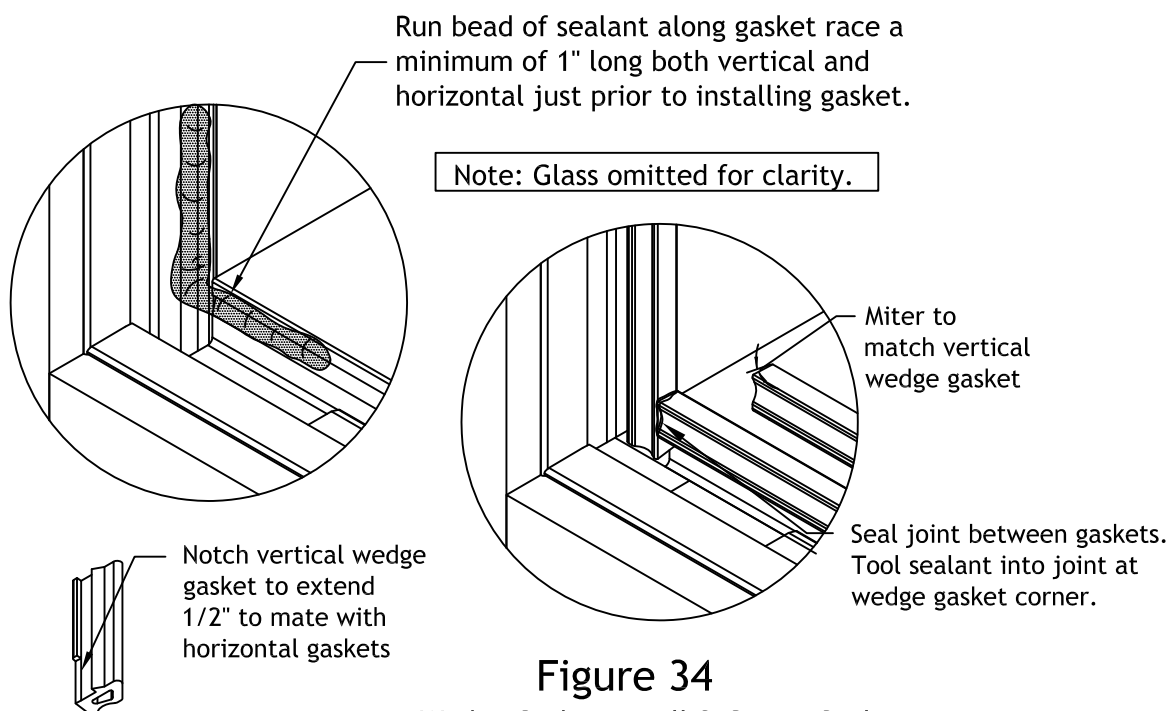

Figure 34
- 8.5 Install glass stops and run interior wedge, crowding into corners. Vertical wedge should be cut DLO plus 1", notch ear and push into glazing pocket by 1/2 at top and bottom of lite. Horizontal wedge to run DLO and mitered to fit tight against vertical wedge. Seal corners of wedge gaskets per **FIGURE 34, page 25.** Wedge should be allowed to relax and cut long as described in step A.1. All wedge gaskets should be cut long by 1/4 " per foot of extrusion length.